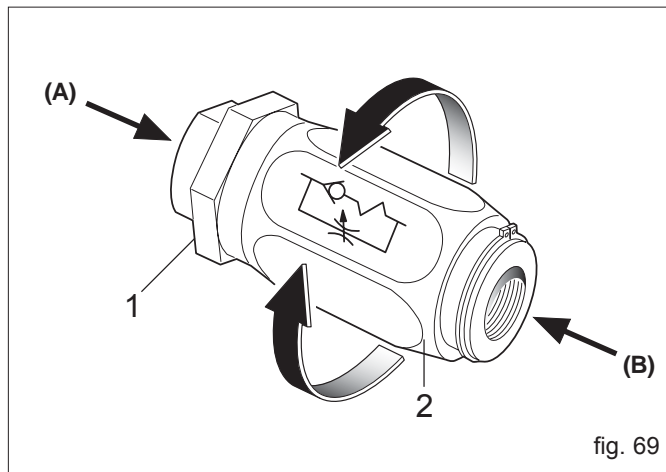

fig. 69
Free flow from A to B (Fig. 69);
Throttled flow from B to A (regulated) (Fig. 69).
The hydraulic systems provided come equipped with one-way flow regulators (Fig. 69) which allow for the regulation of the quantity of oil during opening or closing, depending on how the regulators have been installed:
- Flow from A to B, free (Fig. 69);
- Flow from B to A, choked (regulated) (Fig. 69).
- o regulate, loosen the lock nut (1) and turn the knob (2). Once this adjustment has been made, re-tighten the lock nut.